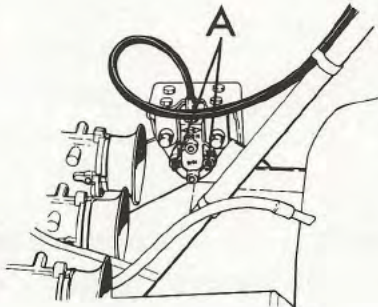

Fig. 2
2. Slip rubber tube over ball of top bleeder valve to direct fluid away from painted surfaces. Refer to Fig. 2, Item A.